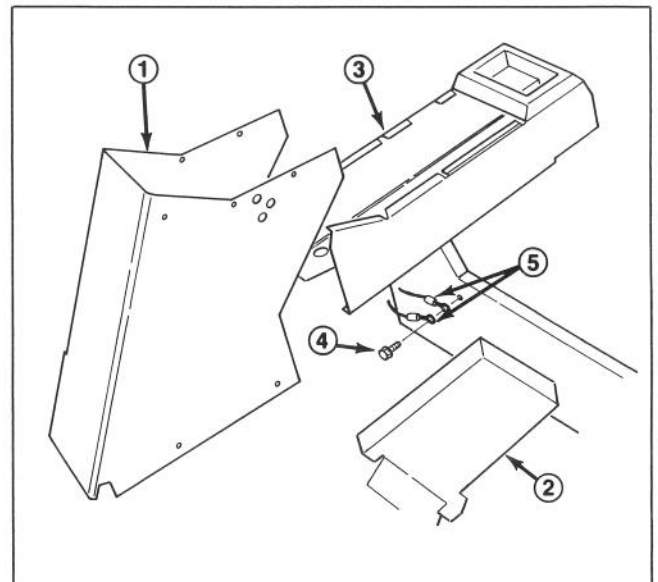

Figure 19
1. With the control housing removed, route the control box harness outside the valve mount and controller (Fig. 19).
2. Remove a mounting capscrew from the valve bank mounting bracket, slip it through the two eyelet terminals on the white ground wires and reinstall it on the machine (Fig. 19). Install the control housing.